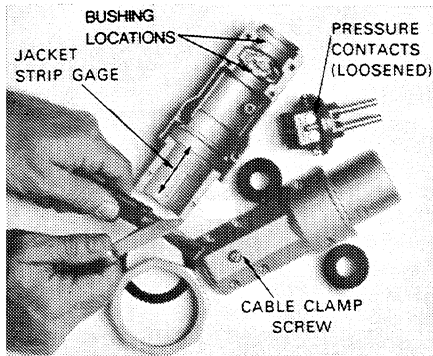

FIGURE 2. STRIPPING CABLE JACKET
3. Using length of jacket strip gage on 60 and 100 amp. plugs, length of strip gage plus 1/2" for 30 amp., remove that much of the cable jacket. (See Figure 2.)
4. Strip enough insulation from each individual wire to allow it to bottom in contact recess. (On 60 and 100 amp. use strip gage on rear of insulator. On 30 amp. strip insulation 1/2".) (See Figure 2.)